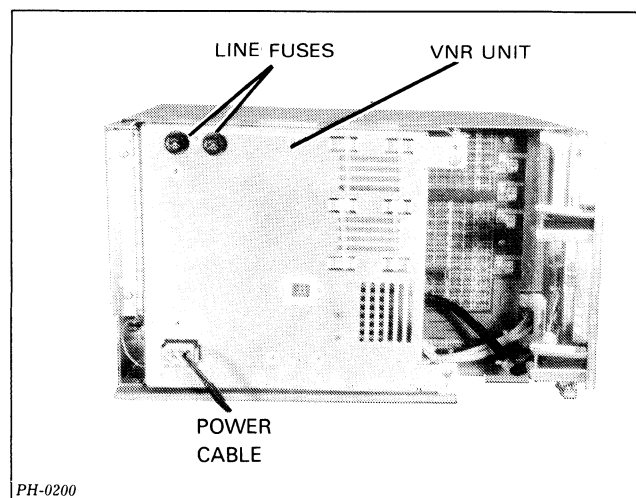

Figure 4.1 Line fuses for 16-slot power supply
4. If you are repairing a system, check the ac line fuses and replace them if they are blown. The 16-slot power supply has two 15 Amp line fuses which screw into the rear of the VNR unit (see Figure 4.1). The 5-slot power supply has one 7 AMP line fuse which screws into the rear of the power supply board and extends through a cutout in the backpanel (see Figure 4.2).